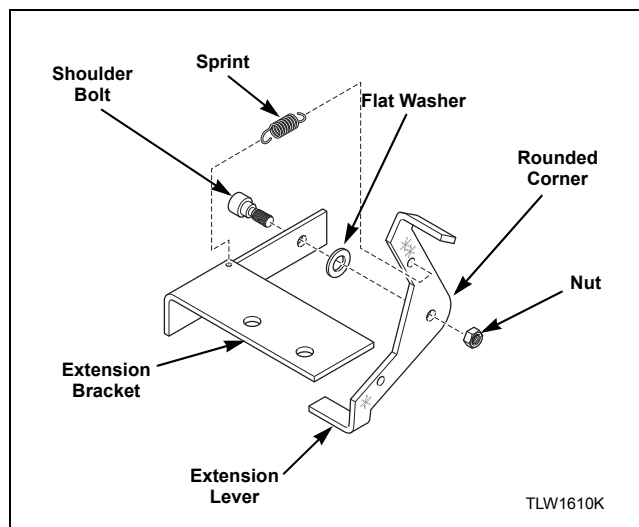

Figure 14
3. Install extension lever with rounded corner facing away from extension bracket using shoulder bolt, flat washer and nut. Refer to *Figure 14*.
4. Install spring to extension bracket with hook facing down. Install other end of the spring to extension lever with hook facing left while standing in front of unit. Refer to *Figure 14*.